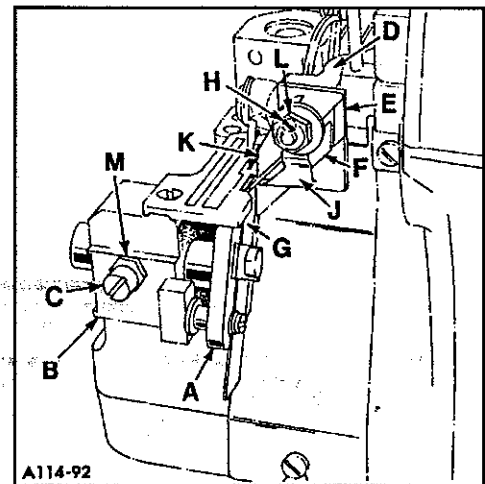

Fig. 15
Insert the spring into lower knife holder (A, Fig. 15) and insert into support block (B). Set the knife to the specified seam width by measuring from the center of the needle to the cutting edge of the lower knife. Hold the knife holder in this position and tighten screw (C).
Turn handwheel in operating direction until upper knife driving arm (D, Fig. 15) is at its highest point of travel. Insert upper knife clamp stud and holder (E) into upper knife driving arm slot. Turn handwheel in operating direction until knife in driving arm is at its lowest position and place upper knife holder slot (F) holding it firmly against lower knife (G). At this time the front cutting edge of the upper knife should be 1/64" to 1/32" (.4mm to .8mm) below the cutting edge of the lower knife. If adjustment is necessary, slide upper knife holder (E) right or left until knife placement is correct and tighten screw (H).